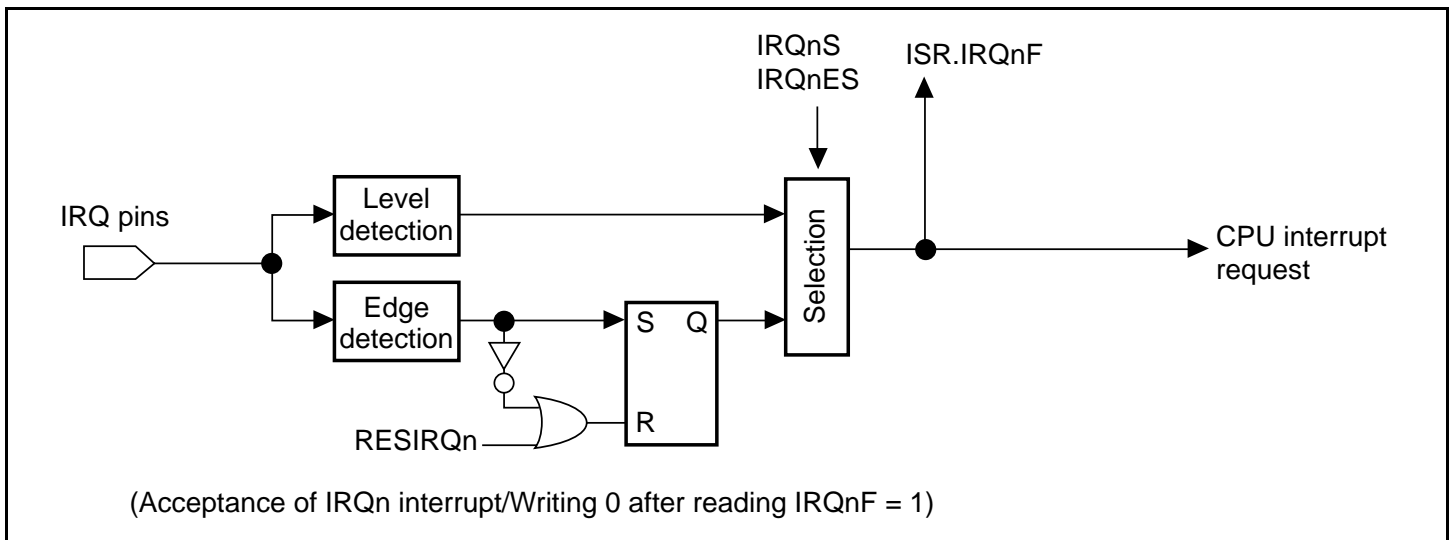

Figure 6.2 Control of IRQ3 to IRQ0 Interrupts
In IRQ interrupt exception processing, the interrupt mask bits (I3 to I0) of the status register (SR) are set to the priority level value of the accepted IRQ interrupt. Figure 6.2 shows the block diagram of this IRQ3 to IRQ0 interrupts.